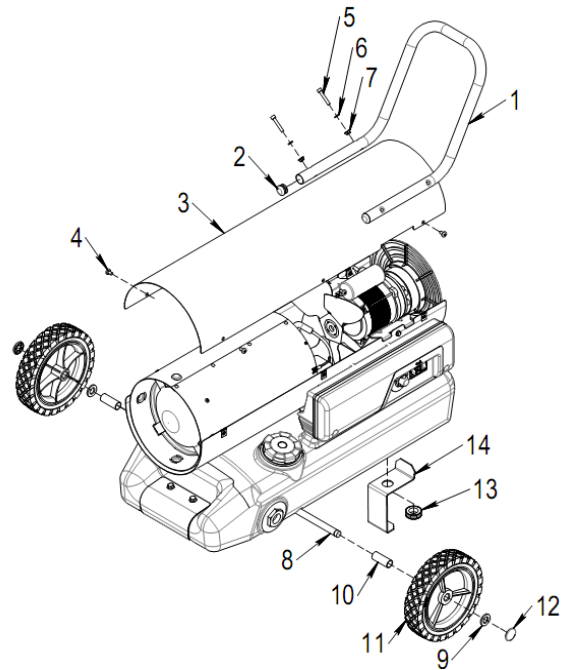

Fig. 1
To assemble the heater, proceed as follows (see Fig. 1): Fix end caps (2) to handle (1). Remove upper cover (3) unscrewing six fixing screws (4). Fix handle to upper shell using four screws (5), washers (6) and nuts (7). Reassemble upper shell.